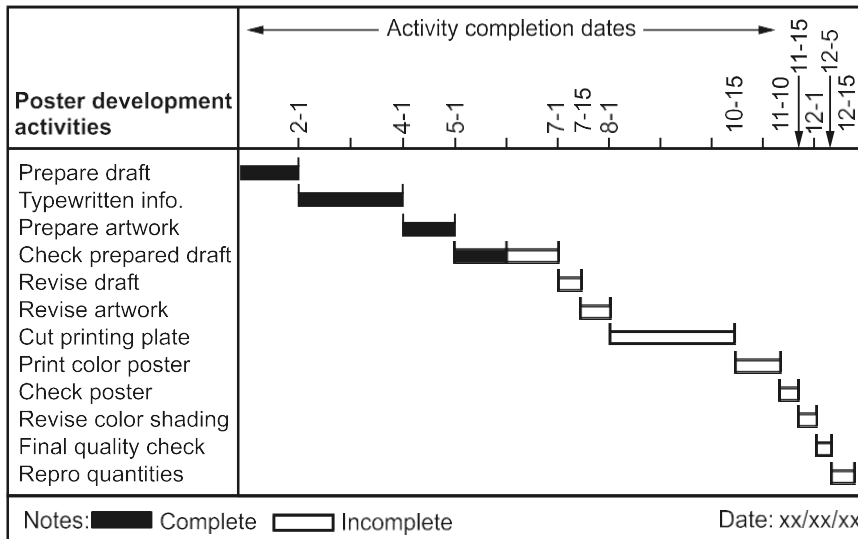

Fig. 2.36.1 Milestone tracker
STEP 2 The team constructs a milestones chart and lists all identified activities in the order of completion. See the example below in the Figure 2.36.1.